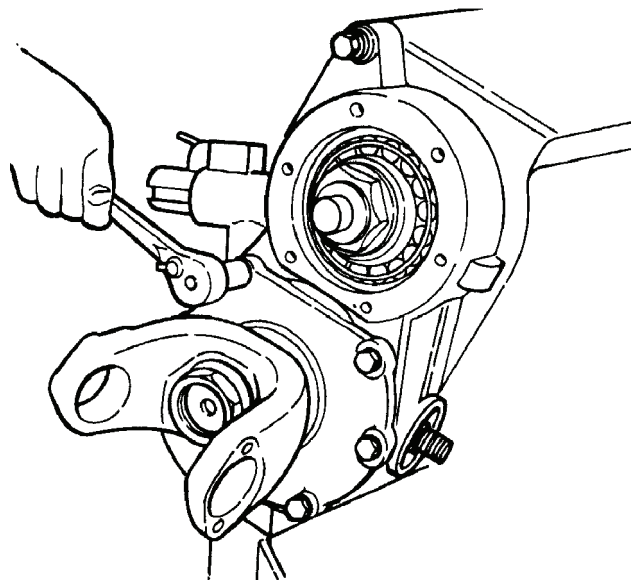

Figure 12. Input Shaft Bearing Cage.
- (5) Remove the capscrews and the washers that fasten the input bearing cage to the differential carrier. Figure 12.